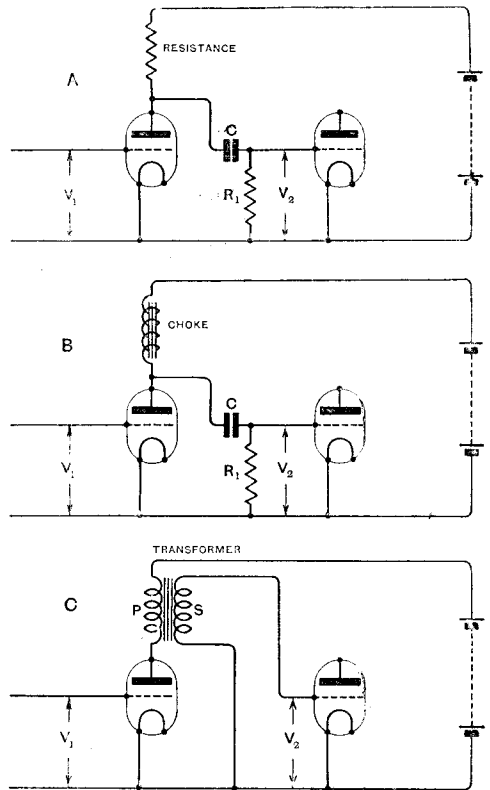

Fig. 1.
HERE appears to be some confusion regarding the merits of the several methods of coupling valves for low frequency amplification. By low frequency is understood the band of frequencies set up by speech and music. The band may extend from about 200 to 10,000 cycles per second. The three methods, resistance (A), choke (B), and transformer (C), are shown in Fig. 1. The amplification A, obtainable with any of the couplings, is equal to the ratio of the voltage V_2 produced by the applied voltage V_1 ; that is $A = \frac{V_2}{V_1}$